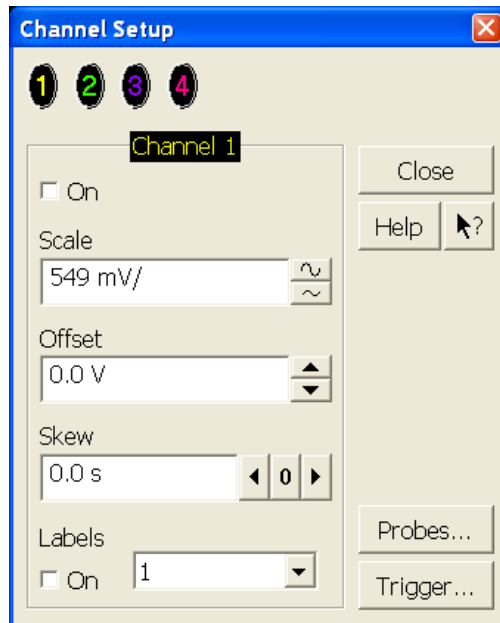

Figure 61 Channel Dialog Box
- 2 In the Channel Setup dialog box, select the Probes... button, as shown in Figure 61.